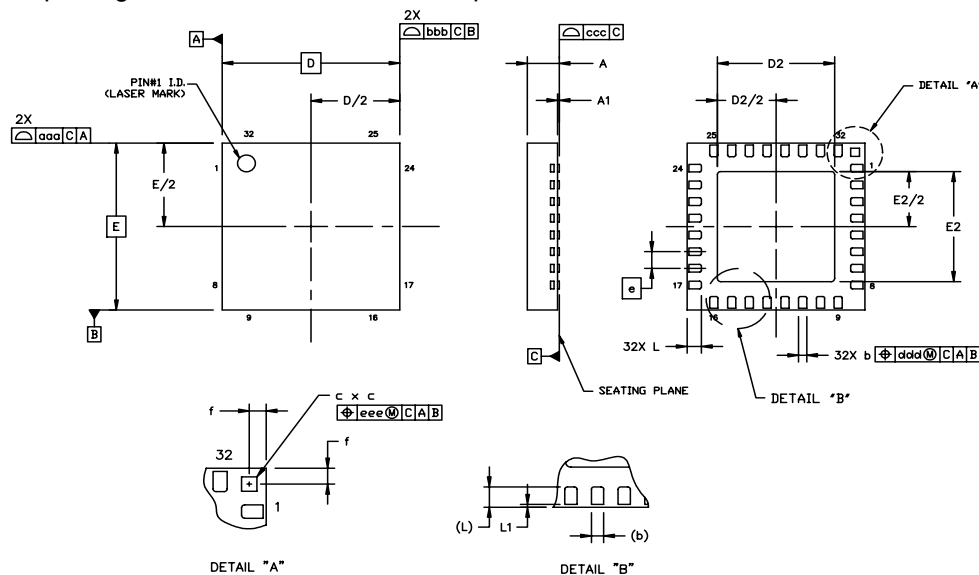

Figure 19. 32-Pin Quad Flat No-lead (QFN)
Figure 19 illustrates the package details for the Si4210-GM. Table 11 lists the values for the dimensions shown in the illustration. The package is lead-free and RoHS-compliant.
- Updated Figure 19, “32-Pin Quad Flat No-lead (QFN),” and Table 11, “Package Dimensions,” on page 29 to include pin 1 ID marker dimensions.